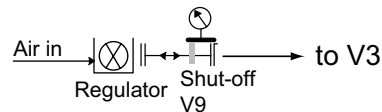

Figure 3 - Manual Test Assembly
### Procedure for Two-Stage Usage Installation Qualification Test (Refer to Figures 3 and 4)
4. Attach the manual test assembly (Figure 3) to V3.
6. Allow the pressure to stabilize for three (3) minutes with the air supply turned on.
8. After three (3) minutes record the pressure.
10. Repeat steps 1-9 until the pressure decay recorded at the end of the three (3) minute test period is less than 5 mbar (0.07 psi), Proceed to the Capsule Qualification Test.
13. Attach the manual test assembly (Figure 3) to V3 and pressurize the capsule stack to 100 mbar  $\pm$  7 mbar (1.45 psi  $\pm$  0.1 psi).
14. After five (5) minutes inspect the drain lines V1, V4, V7, and V8 to determine if the bulk of water flow has stopped. If bulk water flow has not stopped, allow the housing to continue to drain until the water flow is reduced to a trickle. When bulk water flow stops, the capsule qualification test can be conducted.
19. After three (3) minutes, record the pressure.